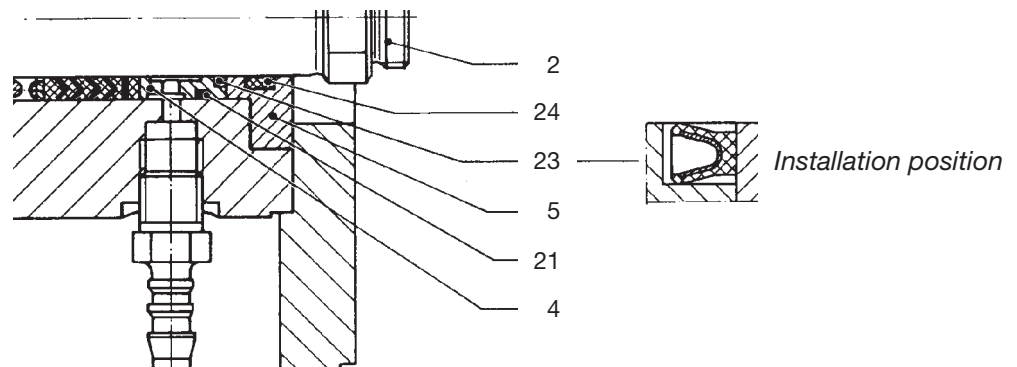

Fig. 10
V-shaped rings -position with the open side towards the liquid end (similar to the FOI-ring (item. 23 in Fig. 10))
- ▶ Draw a new O-ring (21) onto the flushing ring (4)
- ▶ Press a new FOI-sealing ring (21) into the flushing ring (4) (observe direction - see Fig. 10)
- ▶ Push the flushing ring (4) into the liquid end
- ▶ Place the guide ring (5) with a new guide band (24) onto the liquid end and screw tight (5 Nm).
- ▶ Now tighten the screws (27)
- ▶ Place the liquid end flange (3) onto the liquid end and screw tight (7 Nm)
- ▶ Push the piston (2) carefully into the liquid end.